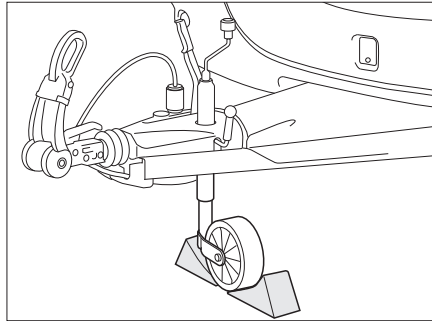

Fig. 159 Securing support wheel
- Place the support wheel diagonal to the direction of travel and secure with suitable tools (Fig. 159).